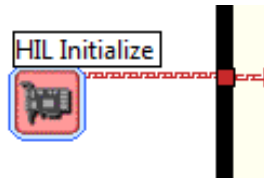

Figure 5.1: HIL Initialize Express VI
5. **Configure DAQ:** Ensure the HIL Initialize block is configured for the DAQ device that is installed in your system. To do this, go to the block diagram (CTRL-E) and double click on the **HIL Initialize** Express VI shown in Figure 5.1.